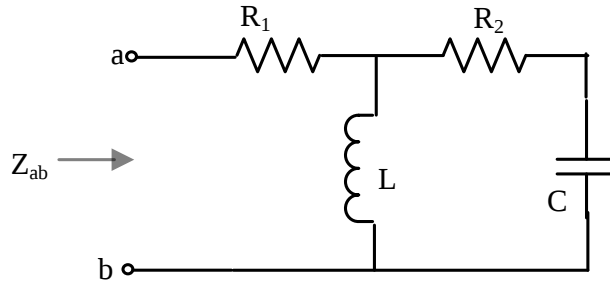

Fig 5.
5. For the network shown in Fig.5,